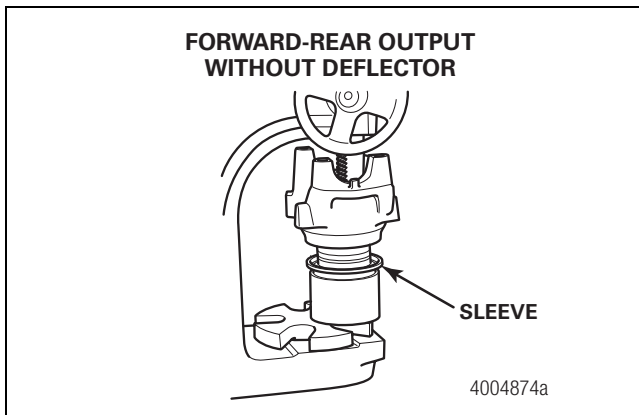

Figure 5
4. Apply a light coat of axle oil to the yoke seal journal. Position the sleeve into the forward-rear axle output yoke sleeve driver. Do not touch the greased areas of the sleeve. The sleeve must be kept clean prior to assembly into the seal. Use an arbor press and the appropriate driver to install the sleeve into the yoke. Verify that the sleeve is fully-seated in the yoke to prevent damage to components. Figure 5.